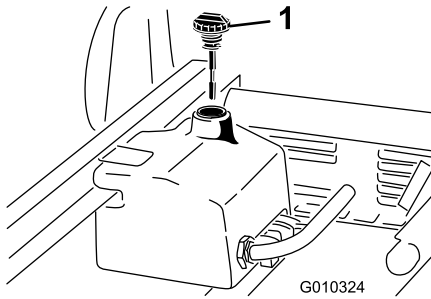

Figure 21
1. Clean the area around the filler neck and the cap of the hydraulic tank (Figure 21). Remove the cap from the filler neck.
2. Remove the dipstick (Figure 21) from the filler neck and wipe it with a clean rag. Insert the dipstick into the filler neck; then remove it and check the fluid level. The fluid level should be between the two marks on the dipstick.